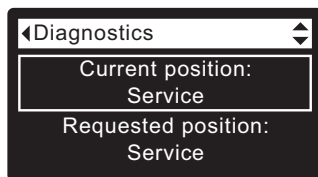

FIG. 106
4. Press the UP (▲) button to scroll through the list until **Current position** is displayed (See Figure 106).